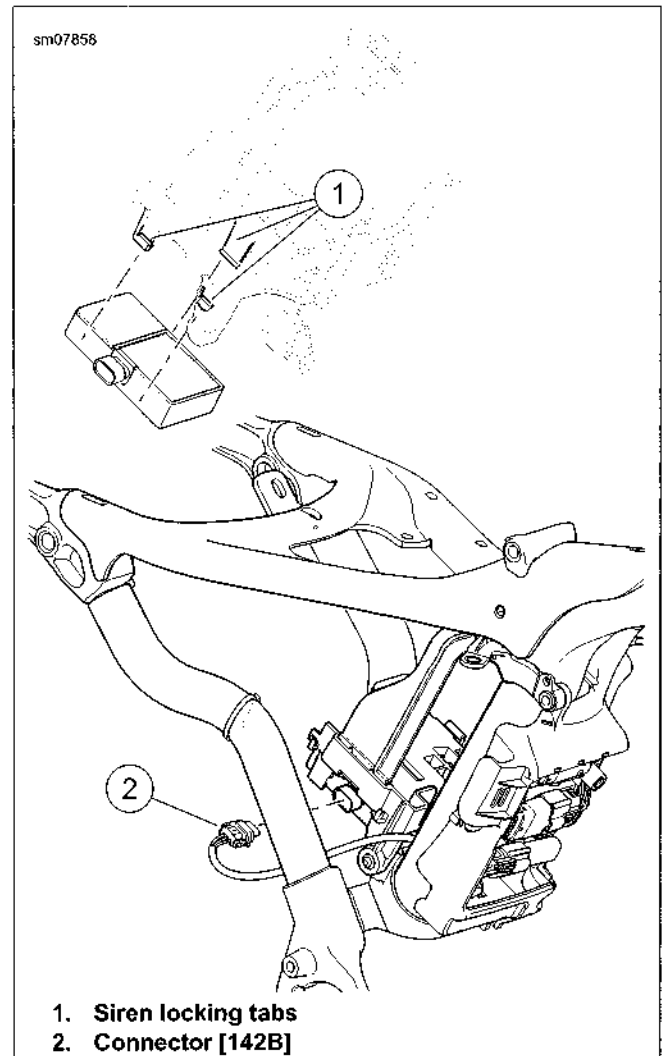

Figure 6-13. Smart Siren
3. See Figure 6-13. Disconnect connector [142B] from siren.
1. See Figure 6-13. Slide siren into battery tray with sounder disc facing down. Make sure tabs (1) lock siren in place.
2. Connect connector [142B] (2) to siren.